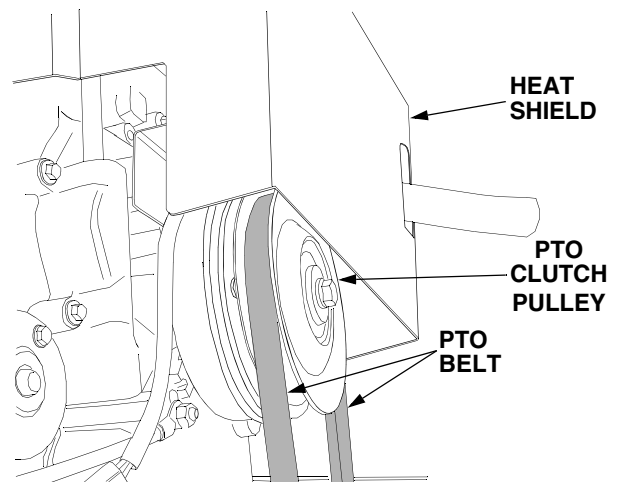

Figure 42
5. From beneath the front of the tractor, lift the two sides of the belt up and maneuver the PTO belt over and off the front of the PTO clutch pulley on the front of the engine. Lower the belt down between the front of the PTO pulley and the engine heat shield (See Figure 42).